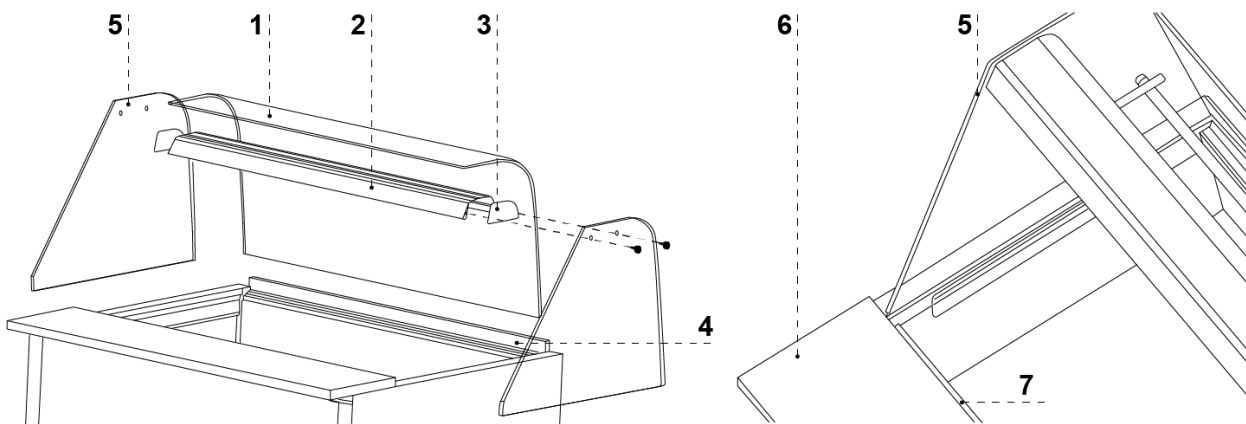

Figure 4 Assembly of glass elements and aluminum lamp
1. Install glass sides (Figure 4/8)
2. Install aluminum lamp and light on glass sides(Figure 4/2)
3. Install front glass, basing it on the lamp and glass sides(Figure 4/1)